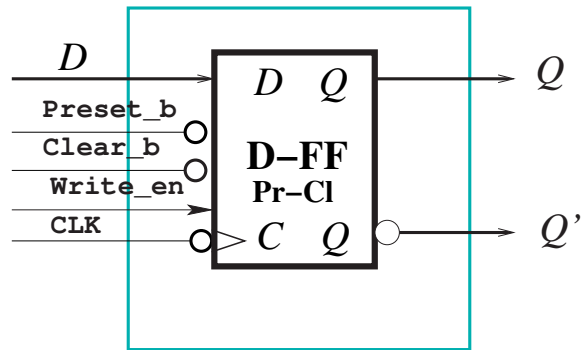

Figure 7: D-Flip Flop with Load, Preset and Clear Capabilities
Extend the capabilities of the base D-FF you implemented in previous sections with the *Load*, *Preset* and *Clear* capability, as shown in Fig. 7. Let’s call the extended D-FF-PC. The `Write_en` line is set (to 1) only when we want to allow the D-FF-PC to sample and store its current input  $D$  in its storage ( $Q$ , and  $Q'$ ). The actual storing of the current input takes place when the clock signal `CLK` makes the HIGH to LOW transition. The `Clear_b` signal is set to “active low” (ie, 0) value when we want to set the contents of the D-FF-PC to 0 ( $Q = 0$ , and  $Q' = 1$ ). In a similar fashion, the `Preset_b` is set to “active low” (0) signal value when we want to preset the D-FF-PC to 1 ( $Q = 1$ , and  $Q' = 0$ ). Both `Clear_b` and `Preset_b` are *asynchronous* to and have precedence over the current clock signal `CLK`.